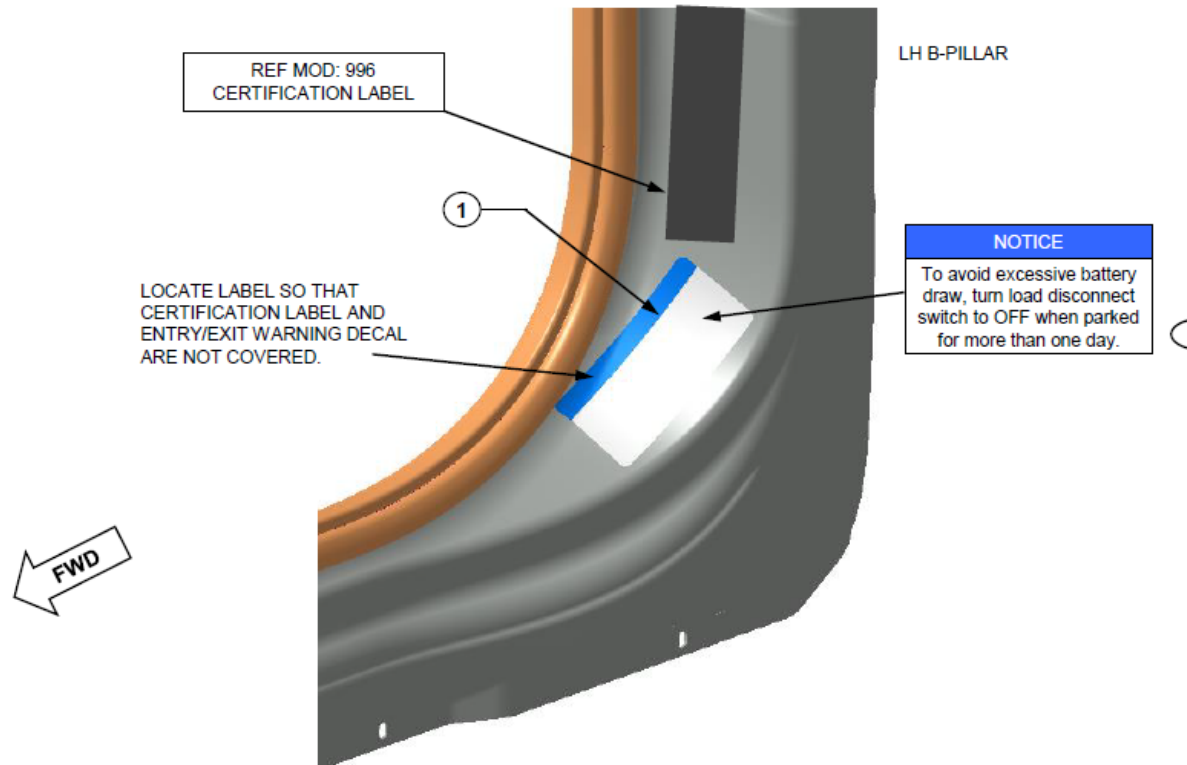

Fig. 22, Battery Load Disconnect Switch Label Installation
13. Install the warning label (part number 24-01618-002) on the door jamb as shown in **Fig. 22**.